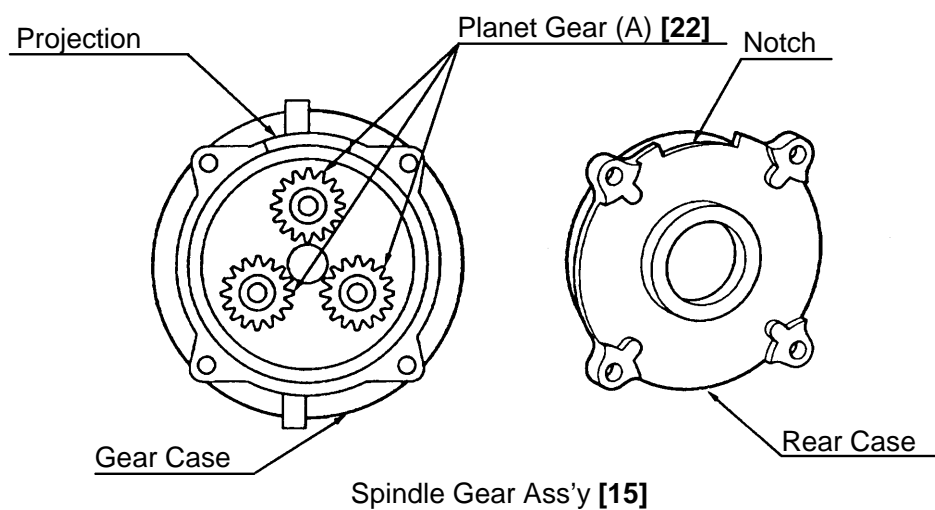

Fig. 9
(5) Removing the Planet Gear (A) Set **[22]**.
The three Planet Gears (A) **[22]** can be taken out by removing the rear case from the Spindle Gear Ass'y **[15]**. (See Fig.9.)
- (2) Put the Spindle Gear Ass'y [15] and the parts assembled in step 1 together.
- (a) Install three Planet Gears (A) [22] into the Spindle Gear Ass'y [15] and mount them in the rear of the case. Note that the projection at the gear case of the Spindle Gear Ass'y [15] should be aligned with the notch in the rear case. (See Fig.9.)